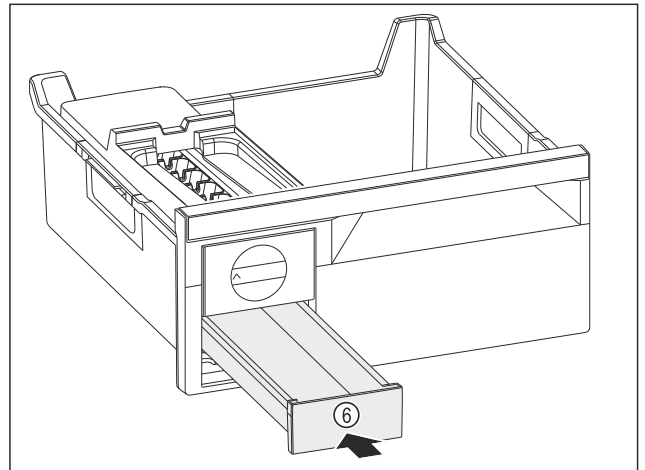

Fig. 110
- ▶ Insert the ice cube drawer Fig. 110 (6).